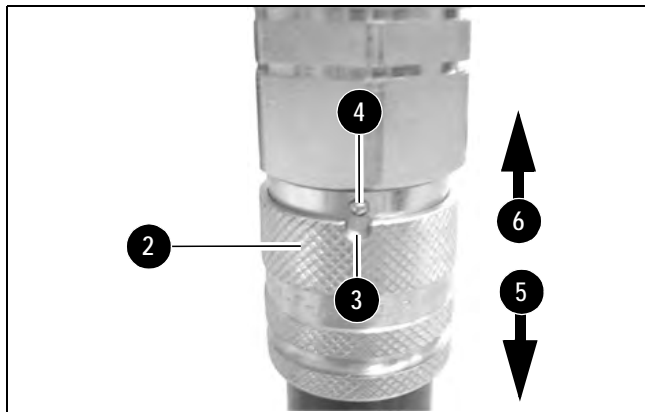

Figure 3-38 Quick Coupling Connections
- a. If necessary, rotate lock sleeve (2, Figure 3-38) so notch (3) aligns with lock ball (4).
- b. Pull lock sleeve (2) down in the direction of arrow (5).
- d. Release lock sleeve (2) so it snaps into place and locks the couplings together. Verify the lock sleeve (2) is snapped closed and the coupling is securely locked together.
- e. Twist lock sleeve (2) so notch (3) is NOT aligned with lock ball (4), to help prevent accidental de-coupling.
- a. Pull lock sleeve (2, Figure 3-38) down in the direction of arrow (5).
- c. Twist lock sleeve (2) so notch (3) is aligned with lock ball (4).
- d. Push lock sleeve (2) up in the direction of arrow (6) to disconnect the coupling.